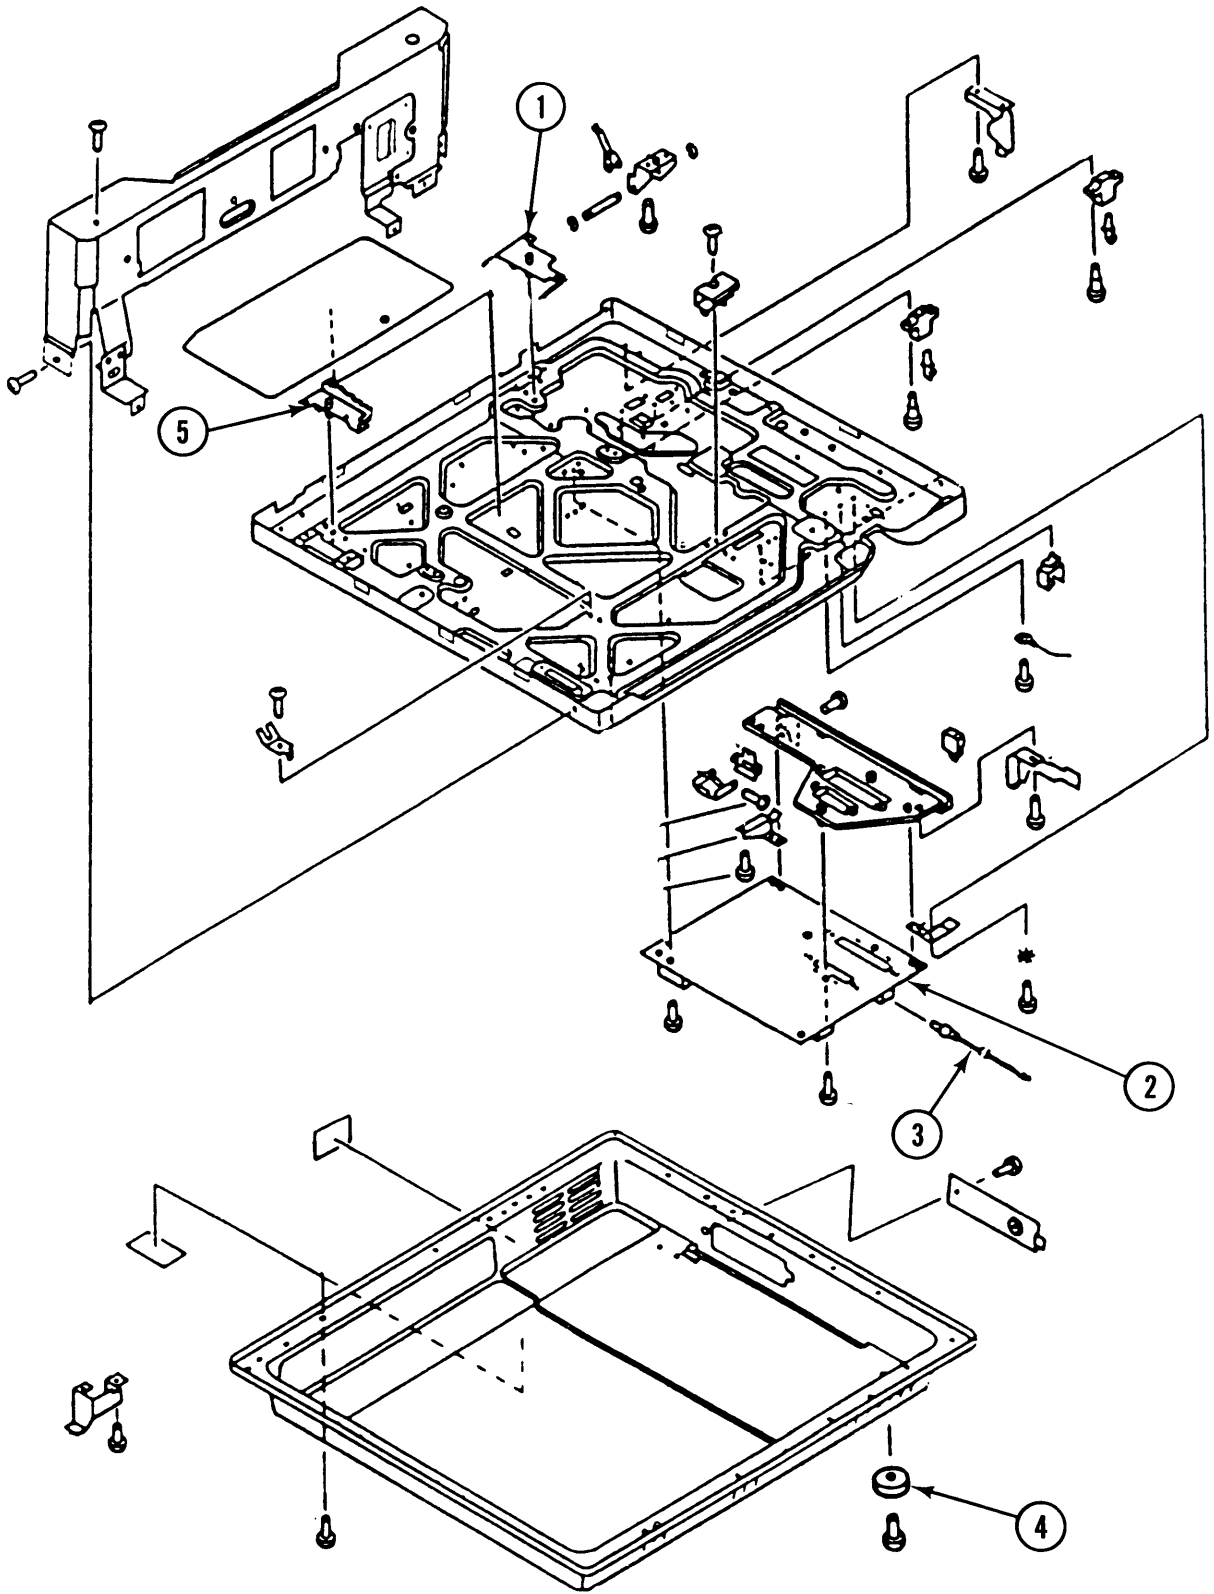

FIGURE 4
- IPL.9 Bottom Case, #1 (Figure 4)
□ BOTTOM CASE, #1 (Figure 4)